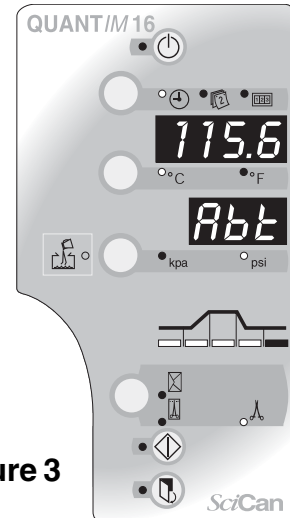

Figure 3
- If during this ten-second period the standby button is pressed again the display reverts to either Ready Mode (Temperature < 95°C) or recovery (for example does not allow entry into the unit until the display shows 95°C). The display will be as shown in Figure 3.